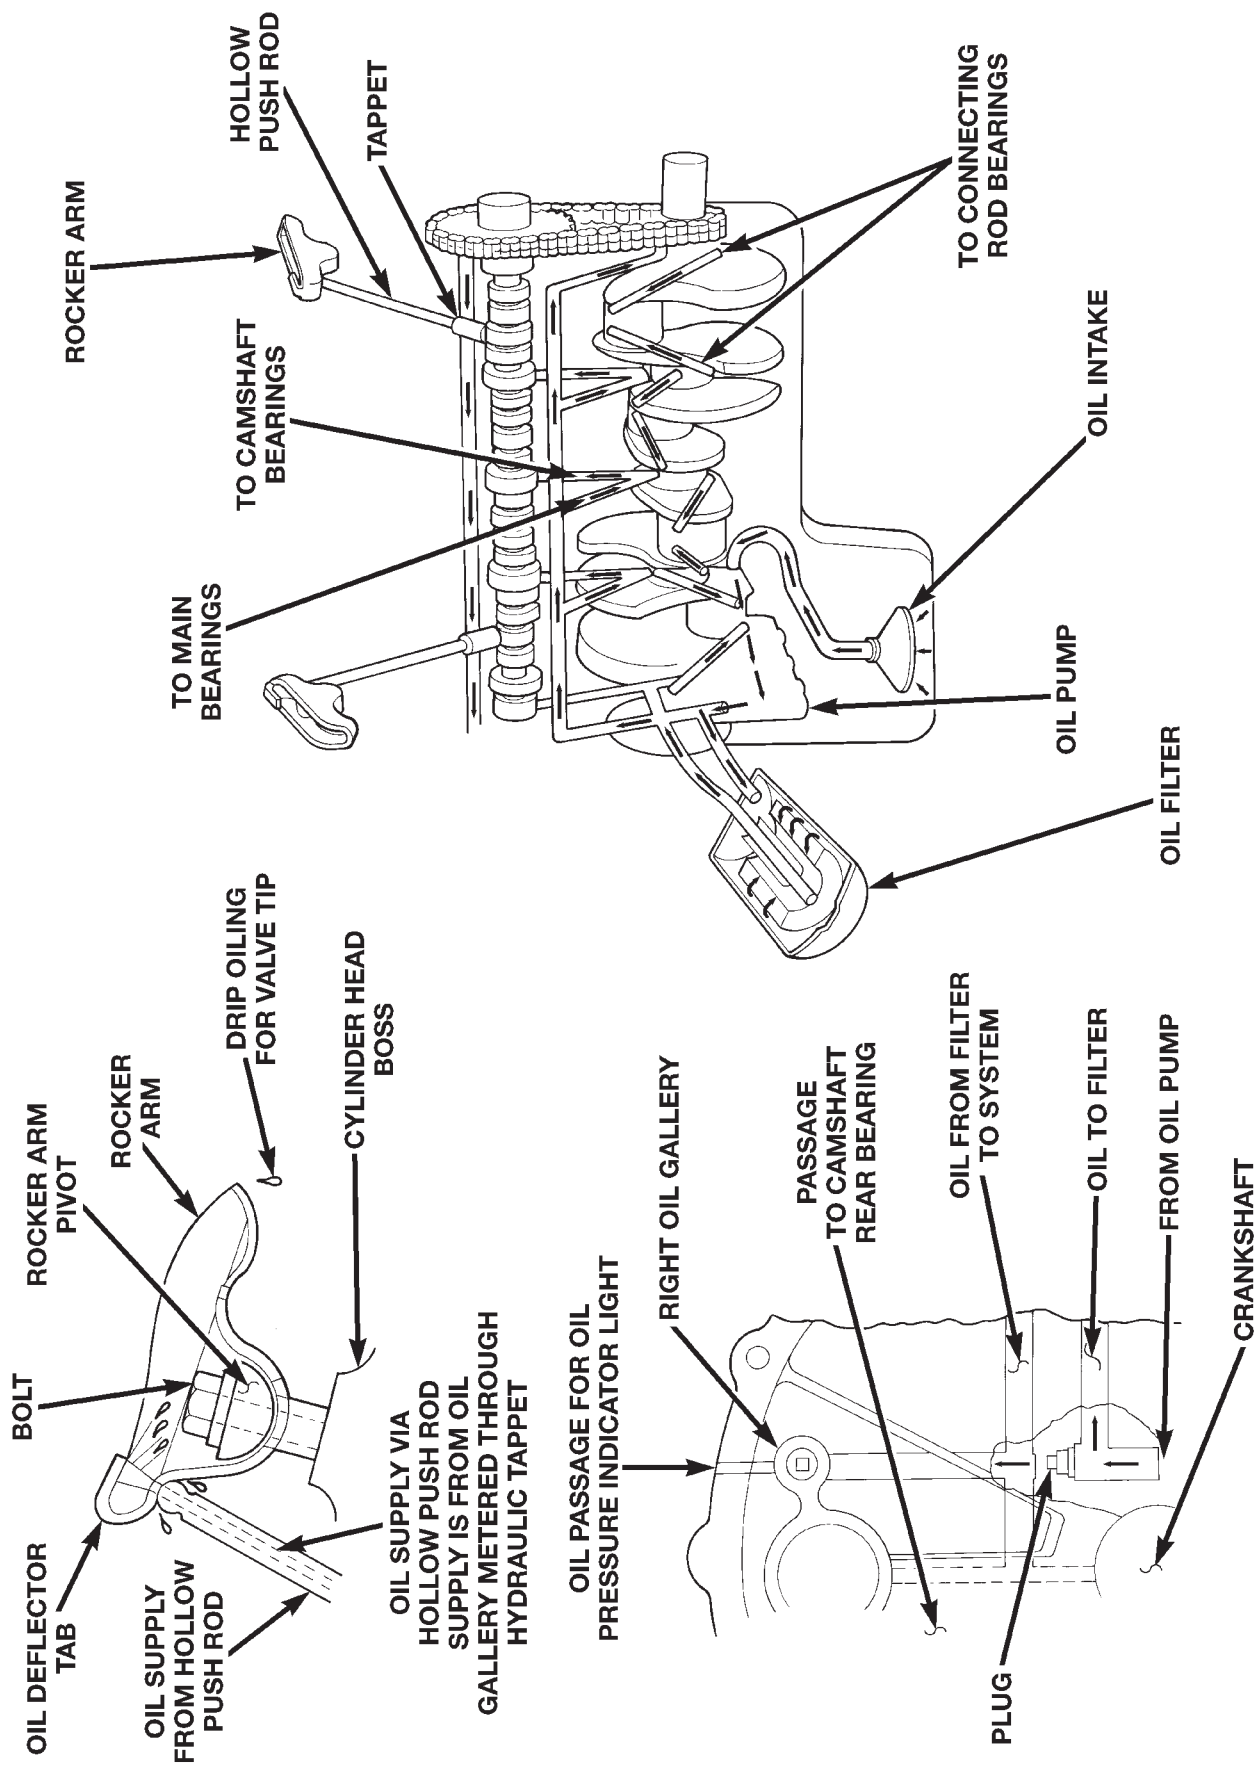

Fig. 4 Oil Lubrication System
- (3) Install engine lifting fixture.
- (4) Raise vehicle on hoist.
- (5) Remove bolts and washers holding front support insulator assembly and the strut to the engine block (Figs. 4 and 5). Move the strut out of the way.